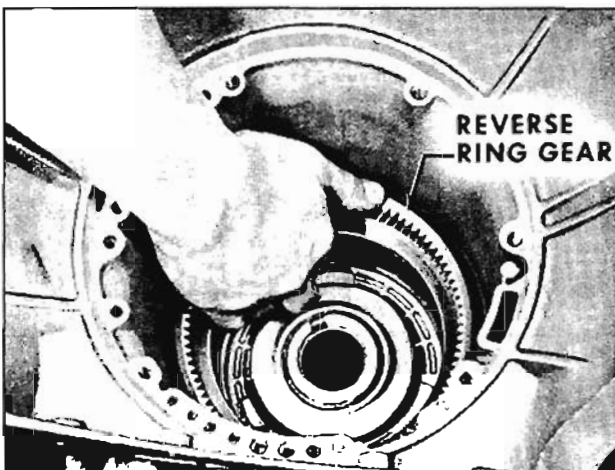

Fig. 6-427 Installing Reverse Ring Gear
2. Install reverse ring gear into case. (Fig. 6-427)